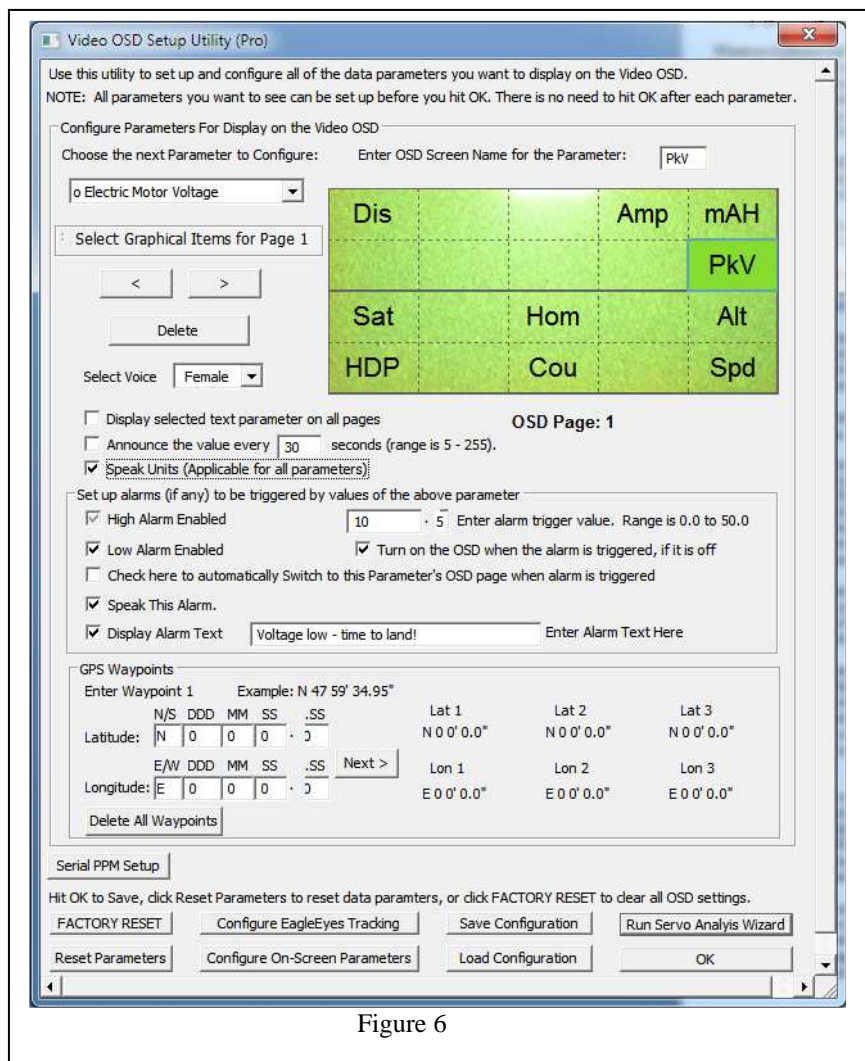

Figure 6
When updating the OSD Pro firmware, after the “Firmware Successfully Completed!!!” message appears, click on the OK button of that message. Then, after a few seconds, the OSD Pro setup page (as shown in Figure 6) will appear. Note that you will need to click OK on the setup page to finalize OSD Pro firmware update. If you do not click OK on this page, you will be prompted to update the OSD Pro firmware again later.
Also, before installing a new software version, it’s a good idea to save your OSD Pro configuration using the button shown in Figure 6 BEFORE installing the new software version, and then loading the configuration again by clicking “File, Load Configuration File” AFTER you have installed the new software version, and completed the OSD Pro firmware update if prompted to do so.
Software configuration of the OSD Pro is done via the OSD Pro setup page (shown in Figure 6). This page is invoked by clicking “Hardware, Choose Parameters to Display on Video OSD” and the page will also automatically appear after you update the OSD Pro firmware. Note: If the page below does not appear, and an error messages appears instead, please see the troubleshooting section of this manual.
- 3) Optionally, a custom text message can be entered, which will appear on the screen when the alarm triggers. This option is configured by clicking the "Display Alarm Text" checkbox, and typing the custom text in the "Enter Alarm Text Here" area, as shown in Figure 6.
- 6) Click the "Display Alarm Text" checkbox, and type "Battery Almost Dead!!" in the "Enter Alarm Text Here" area, as shown in Figure 6.
To save all of your OSD Pro’s configuration settings, click the “Save Configuration” button. Then, you can later load the configuration again, by clicking “File, Load Configuration File” or clicking the “Load Configuration” button in the OSD setup utility.. Note: Before installing a new software version, it’s a good idea to save your OSD Pro configuration using the button shown in Figure 6 BEFORE installing the new software version, and then loading the configuration again by clicking “File, Load Configuration File”